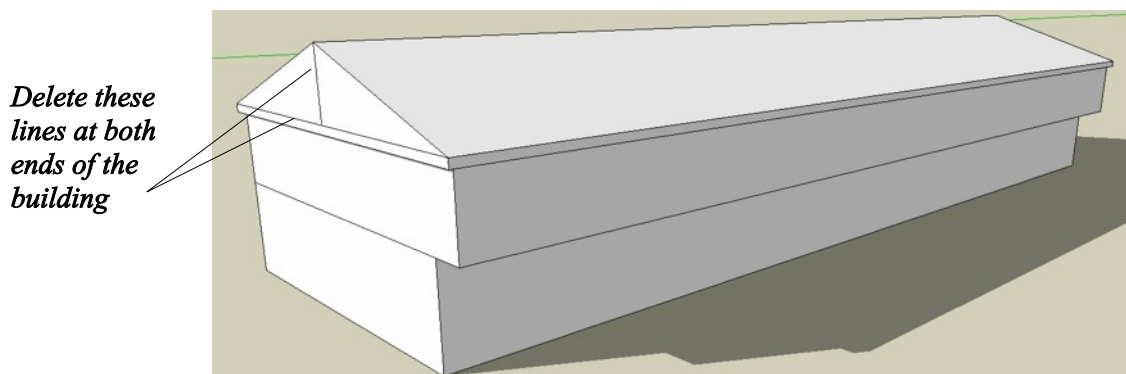

Figure 44. The Completed Roof
- Complete the roof as shown in Figure 44.
Delete the extraneous lines at both ends of the roof as shown in Figure 44.